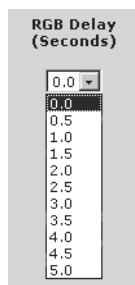

Figure 6-14— Output selection drop box
1. Click on the RGB Delay drop box. A drop down scroll box appears (figure 6-14).
1. Click on the output drop box. A drop down scroll box appears (figure 6-14).